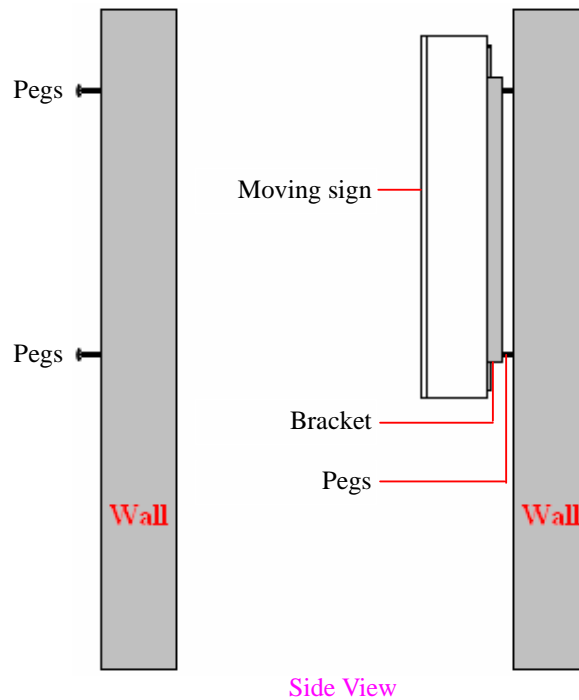

Fig3.13 Wall mounting II
- 5) Hanging moving sign onto wall by pegs as fig3.13 shows.